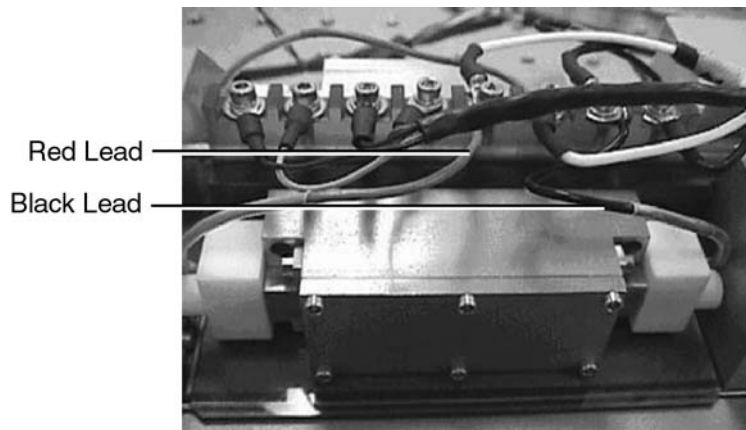

Figure 5-2: Removing Leads to Replace Flashlamp for Solo I, II, III
- 3) Remove the RED and BLACK flashlamp leads from the terminal strip, Figures 5-2 and 5-3.
- 12) Reconnect the RED and BLACK flashlamp leads, as shown in Figures 5-2 & 5-3.